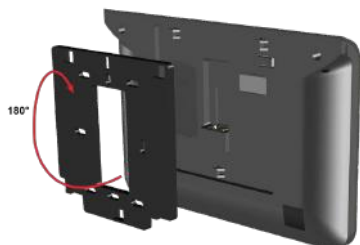

Figure 12: Back-Plate Removal
4. Slide the back plate slightly to the left and lift it away from the device. Turn the bracket 180 degrees as shown in Figure 12.